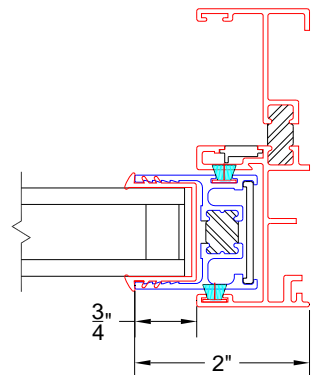

Figure 18:
4. Lift and move the panel into the fixed jamb until the fixed stile is 3/4” exposed (Figure 18).